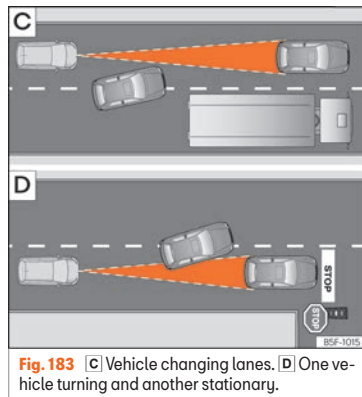

Fig. 183 [C] Vehicle changing lanes. [D] One vehicle turning and another stationary.
- Vehicles that move into your lane, a short distance from your vehicle »» Fig. 183 [C].
The ACC may not react to stationary vehicles. If, for example, a vehicle detected by the ACC turns or moves over and there is a stationary vehicle in front of it, the ACC will not react to the second vehicle »» Fig. 183 [D].